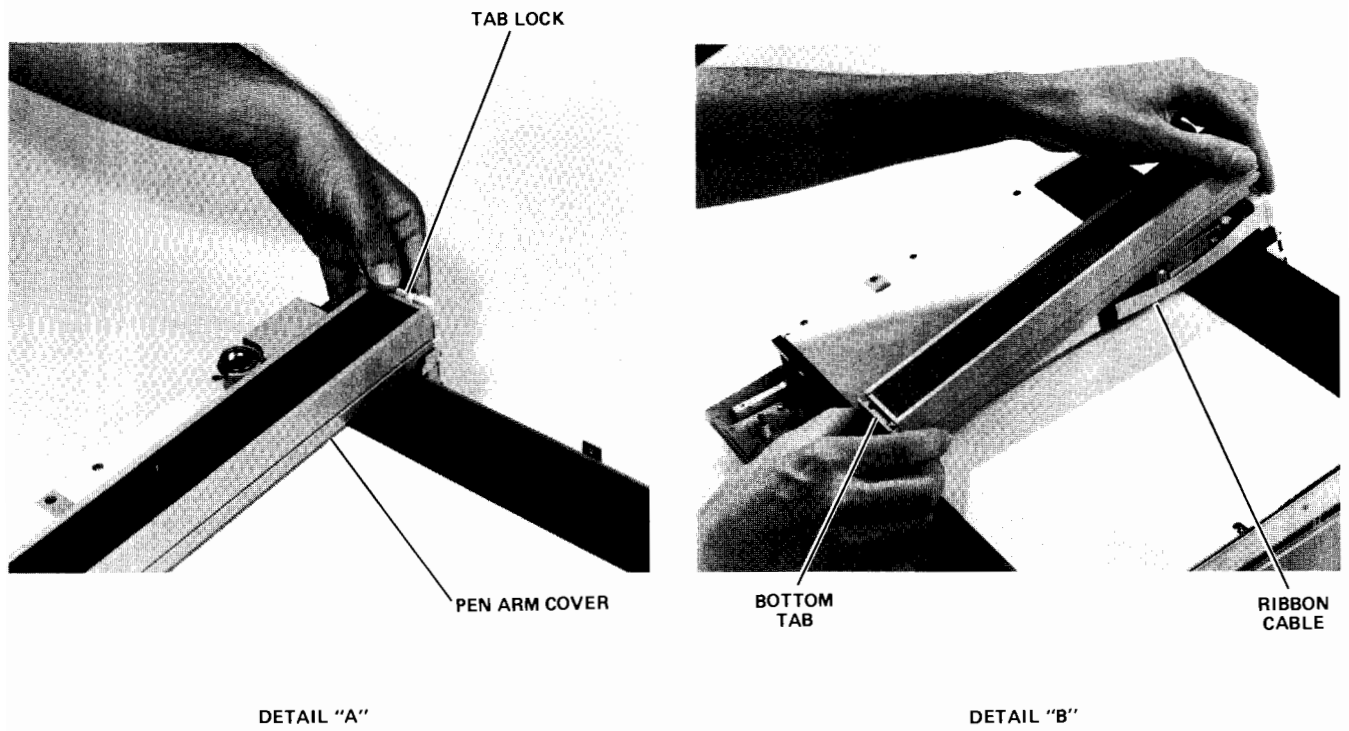

Figure 3-2. Pen Arm Cover Removal
b. Remove the Y stator cover (pen arm) by disengaging the locking tab. (See Figure 3-2 detail A.)
c. Slide the cover off the bottom tab and lift it clear of the stator. (See Figure 3-2 detail B.)
- b. Remove the Y stator cover (pen arm) by disengaging the locking tab. (See Figure 3-2 detail A.)
- c. Slide the cover off the bottom tab and lift it clear of the stator. (See Figure 3-2 detail B.)
- c. Remove the Y stator cover (pen arm) by disengaging the locking tab. (See Figure 3-2 detail A.)
- d. Slide the cover off the bottom tab and lift it clear of the stator. (See Figure 3-2 detail B.)